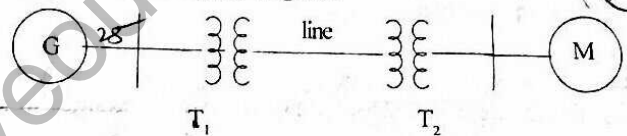

Fig 4(b)
- (b) Sample power system network is shown in Fig. 4(b). The rating of different components is :